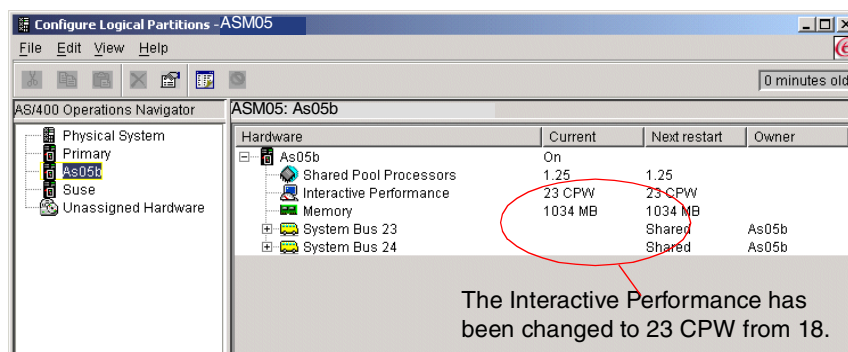

Figure 8-17 Configure Logical Partitions display: After moving interactive performance
- c. Click **OK** to move the interactive performance. See the results in Figure 8-17.